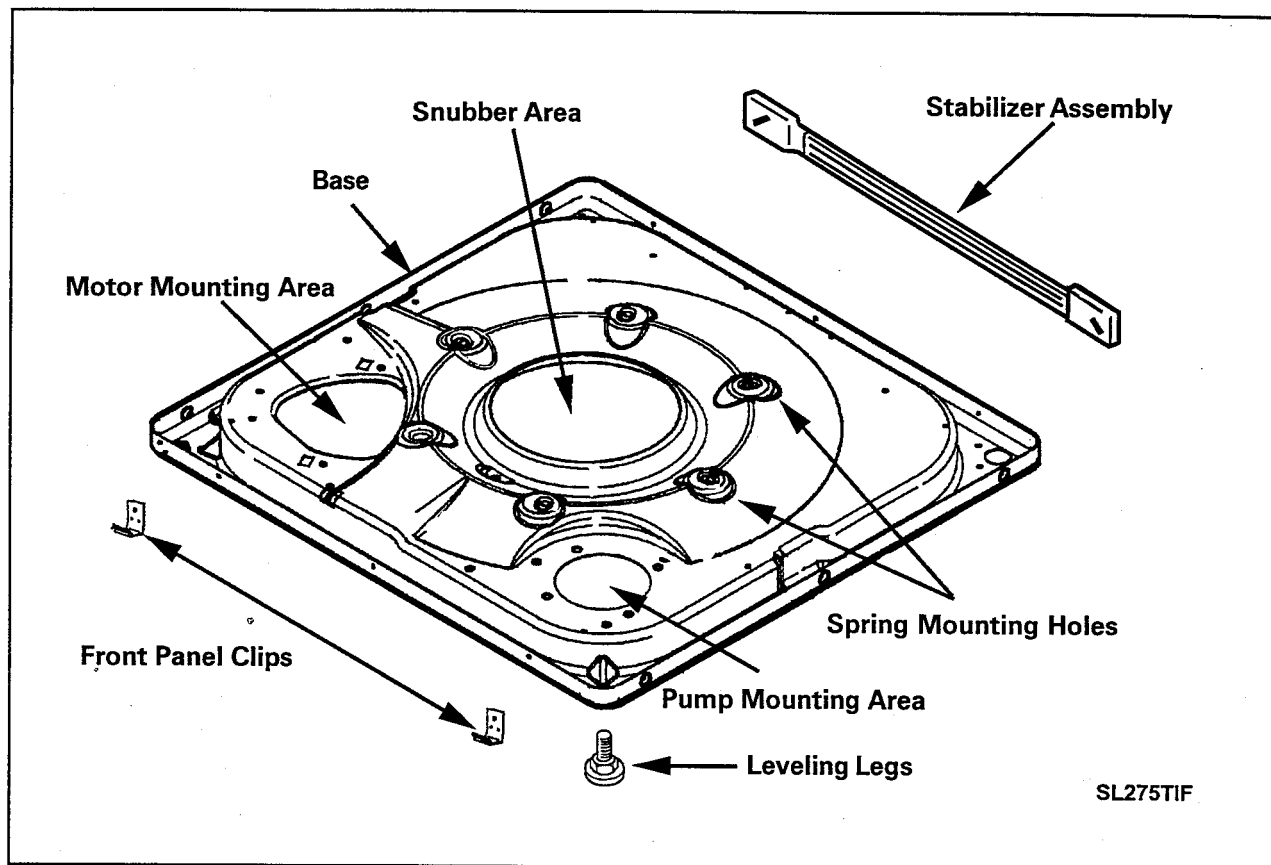

Figure 4-21
There is a spherical configuration on the lower end of the brake/transmission/tub assembly. This spherical shape rides on the raised dome-like area in the center of the base. The mounting is similar to a ball joint and allows the housing to move freely in all directions (*Figure 4-21*).
3. Tip or lay washer down, either forward or on the side. Remove the screws from the underside of the base that attaches the stabilizer assembly to the rear of the base (*Figure 4-21*).
5. To disassemble the stabilizer assembly after removal, drive the two (2) foot pins out of the feet and brackets.